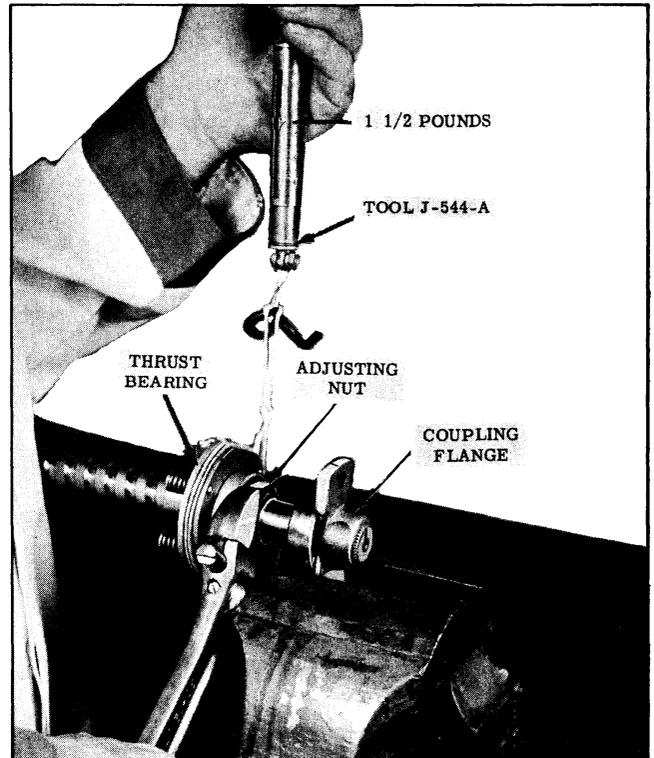

Fig. 5-55 Adjusting Thrust Bearing
- b. If the bearing is not rough but the preload is outside of the tolerance, it will be necessary to remove the adjusting nut, install a new one, and adjust preload to 1-1/2 lbs. (See Fig. 5-55)
3. Install washer with tang in keyway and facing splined end of shaft. Install a new nut and adjust preload to 1-1/2 lbs. as outlined in step 11. (See Fig. 5-55) Stake nut into keyway of shaft and recheck preload.